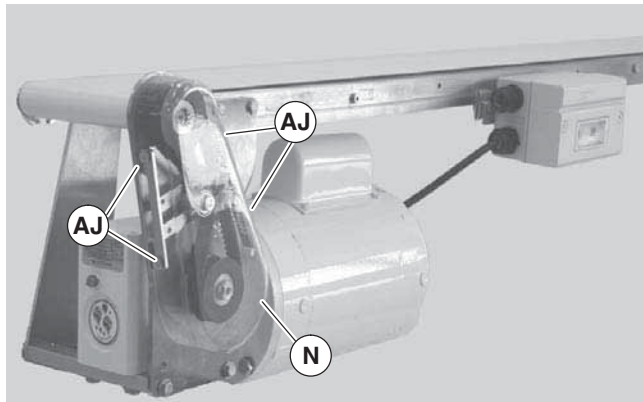
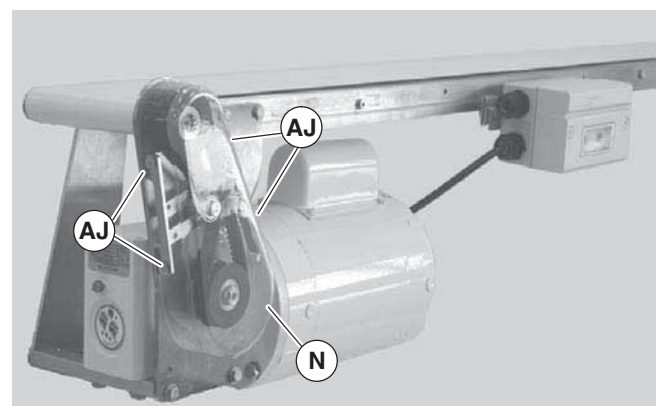

Figure 32
Figure 35
<p>Figure 32 through Figure 35 shown tensioning procedure for a timing belt. Tensioning a timing chain is similar except as noted.</p>
1. Loosen four (4) screws (Figure 32, item AJ) and remove cover (N).
<p>Do not over-tighten screws (Figure 35, item AJ).</p>
5. Attach cover (Figure 35, item N) with four (4) screws (AJ). Tighten screws to 35 in-lb (4 Nm).